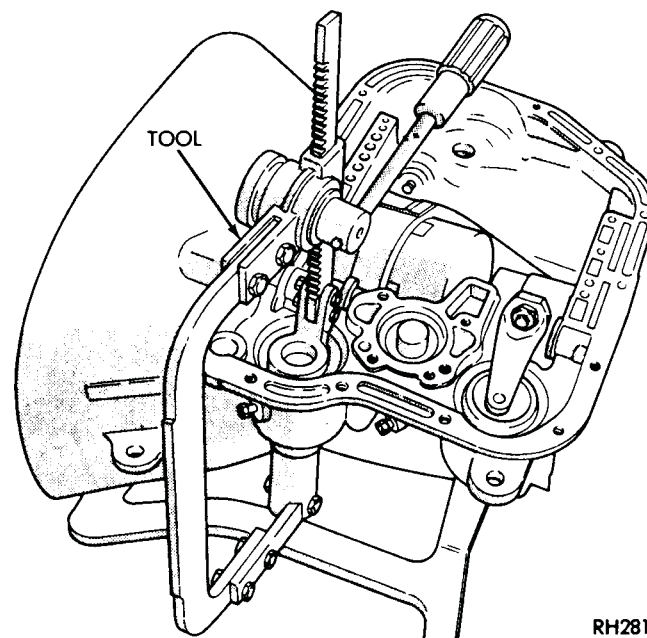

Fig. 8—Compress Kickdown Servo Spring
(1) Compress kickdown servo spring by using engine valve spring compressor Tool C-3422A, remove snap ring (Fig. 8).
(2) Remove rod guide, spring and piston assembly from the case. Be careful not to damage piston rod or guide during removal.
(3) Withdraw piston from the transmission case.